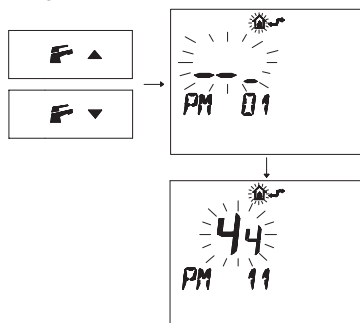

Fig. 8.20
- Press buttons or to display the "PM11" program of the pump post-circulation (Fig. 8.20).